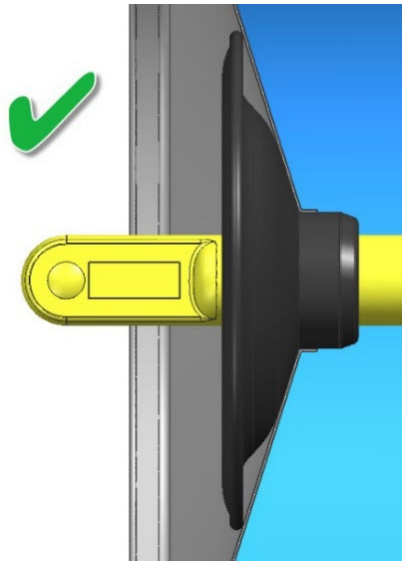

Figure 9: Correct position of gasket washer
3. See figures 9 & 10.
Ensure that gasket washer is still properly seated in the metal cap of the cylindrical filter element, as shown in fig.9.